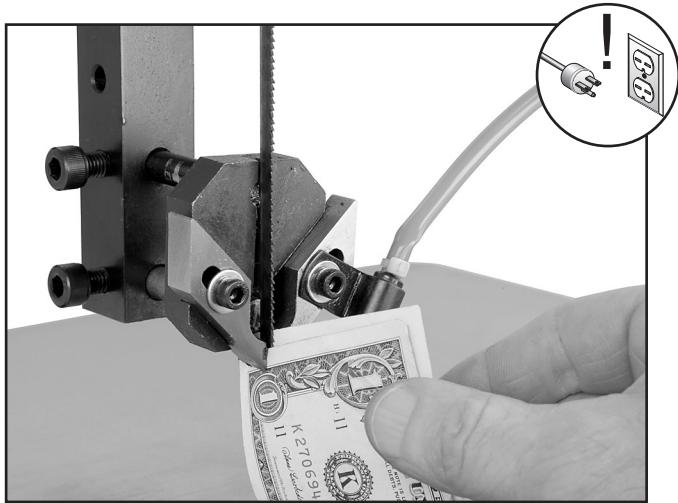

Figure 30. Using a dollar bill to set blade guide spacing.
8. Fold a crisp dollar bill in half and place it over the blade (between the blade guides and the blade), as shown in **Figure 30**.